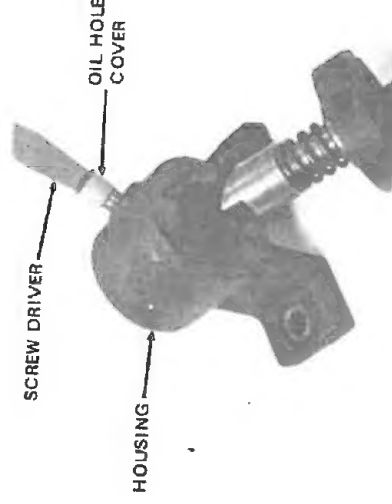

FIGURE 3
5. Install oil hole cover where grease fitting was. See fig. 3.